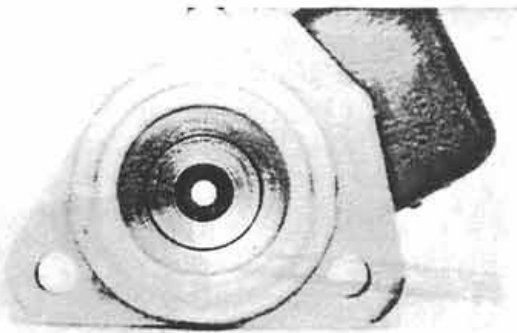

Figure 6:
2. Examine the bore of the master cylinder (Fig. 6). If only light scratches or pitting are present, they may be removed with a small brake cylinder hone.